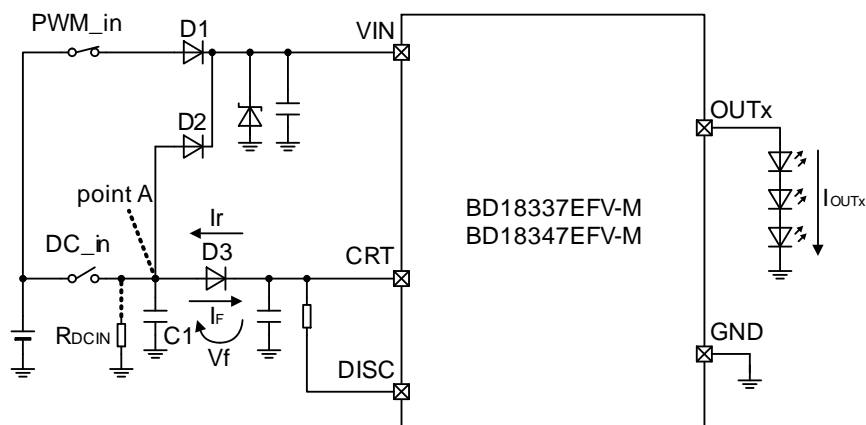

Figure 14. How Reverse Protection Diode Affects the CRT pin Ramp Up / Down Time
- (1) During the PWM dimming operation mode, Point A on Figure 14 is Hi-Z.
- (2) Reverse current  $I_r$  of D2 and D3 goes to Point A.